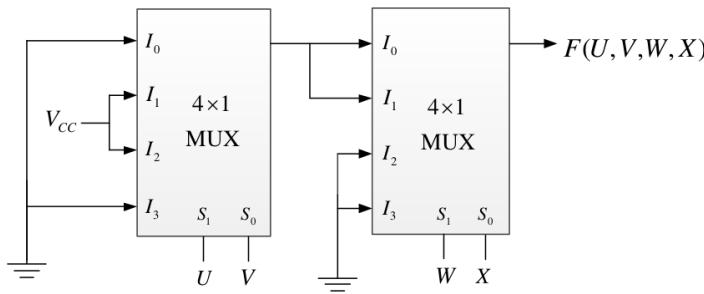

Fig. 4.16
30. A four-variable Boolean function is realized using  $4 \times 1$  multiplexers as shown in the Fig. 4.16. The minimized expression for  $F$  is